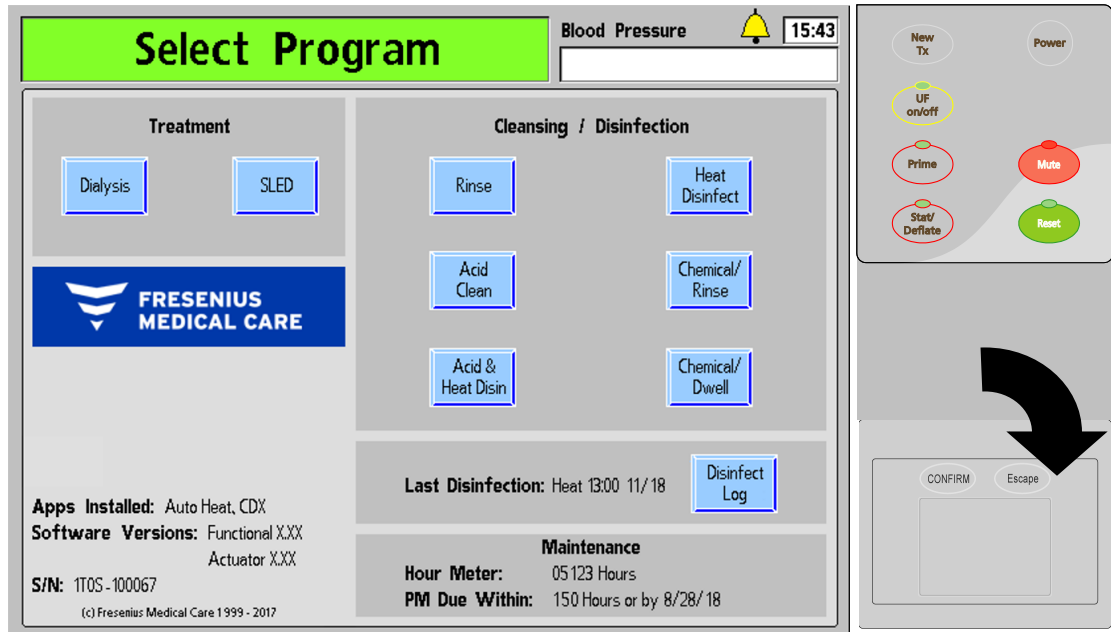

Figure 22 – The Select Program Screen (functional software version 2.74 or later) and Touchpad
Note: The “Select Program” screen displays any additional software applications (Apps) that are installed on the 2008T hemodialysis machine (see Figure 22 for an example).
1. Press the **POWER** key on the control panel. The “Select Program” screen (see Figure 22) will appear on the monitor after approximately one minute.